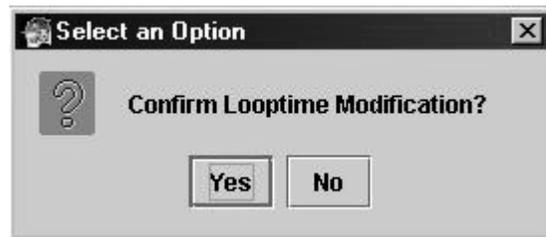

Figure 6-11: Confirm Modify Looptime Dialog
3. Click **MODIFY**. The Select an Option dialog displays. See Figure 6-11.